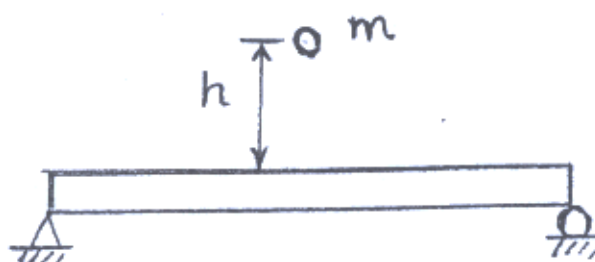

Fig. 4
4. Fig. 4 shows that a block of mass m is dropped from a height h onto the same beam at the mid-span as described in problem 3. (25%)